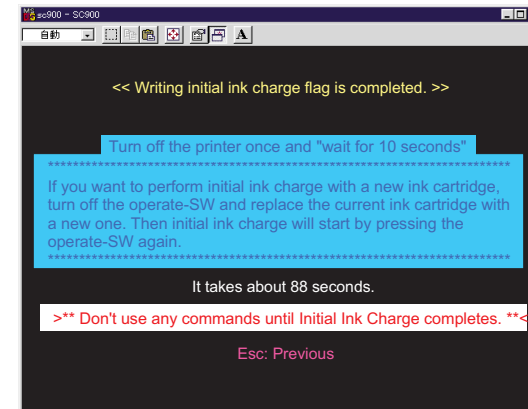

**Figure 5-46.**
11. Select “Already replaced”. If you have selected “Have not replace” because you have not replaced the waste ink pads, the screen returns to the initial protection counter screen (Figure 5-46).
13. Press the ESC key twice to return to the initial protection counter screen (Figure 5-46).